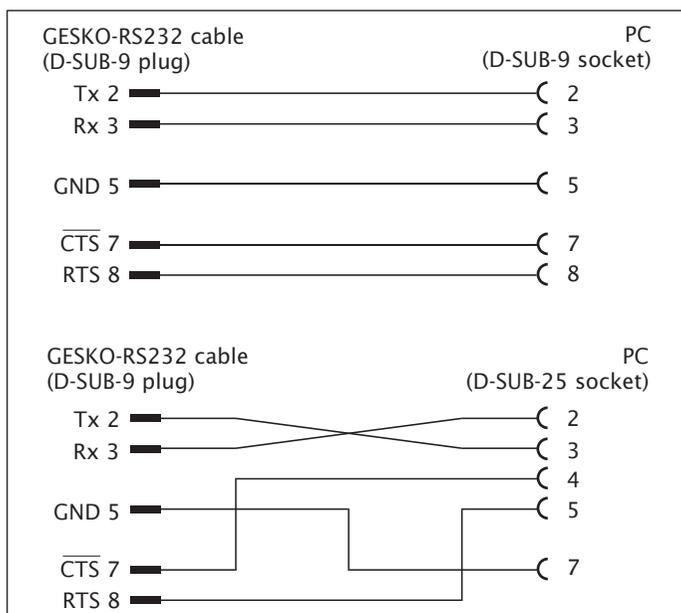

Fig. 4-1: Extension cable for connection to the PC
- Insert the Western (RJ-45) plug of the cable supplied into the unit's RS 232 C interface and put the cable's socket in the computer's COM port. If you need an extension cable, this will have to be assigned as in Fig. 4-1.